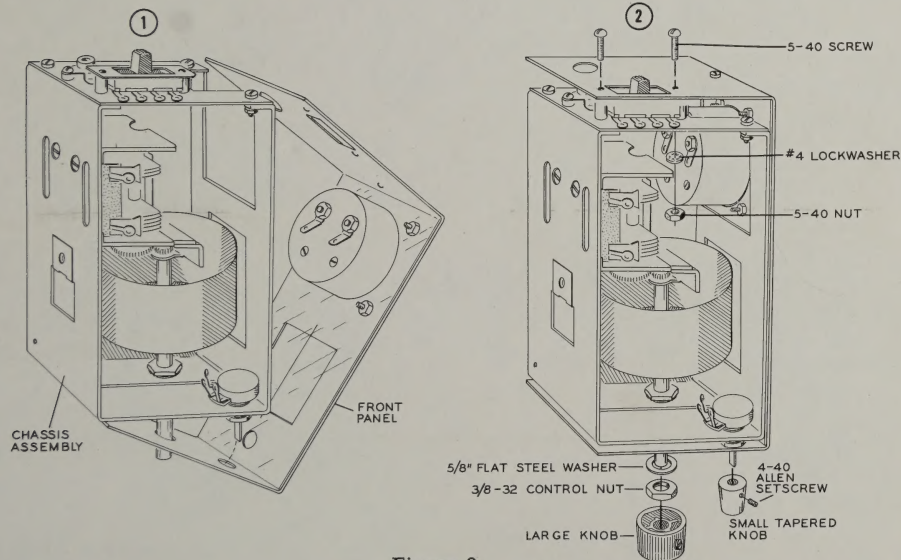

Figure 2
Refer to Figure 2 for the following steps.
- () Now place the other lead of this resistor at point C on the circuit board foil (NS) and cut off the excess lead.
- () Cut both leads of the 1000 Ω (brown-black-red) 1/2 watt resistor to 1/4". Place this resistor between points E (S-1) and D (NS) on the circuit board.
- () Cut the lead extending from the cathode end (with the white band) on the G247 silicon diode to 1/4". Place the diode on the circuit board with the short lead at point D (S-2) and the uncut lead at point C (NS).
- () Referring to Figure 2, replace the front panel on the chassis, using the 5-40 hardware, the flat steel washer, and the control nut.